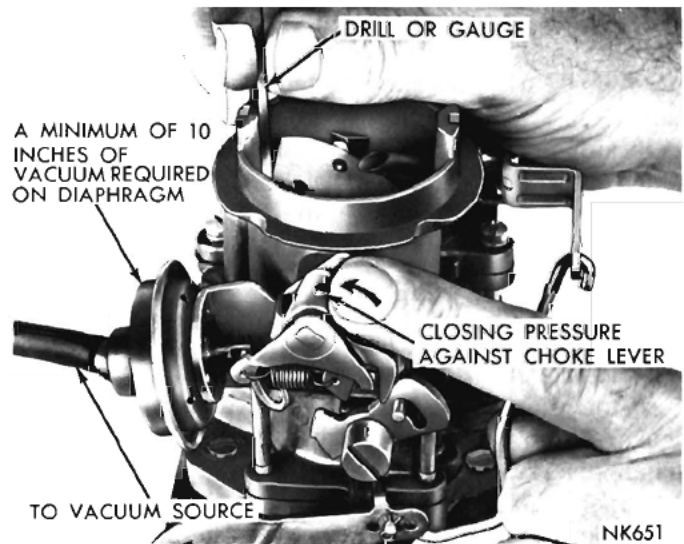

Fig. 15—Vacuum Kick Adjustment
(1) With the engine **Not** running, open the throttle valves far enough to allow the choke valve to be moved to the closed position.
(2) Disconnect the vacuum hose from the diaphragm and connect the hose from the vacuum supply, as shown in (Fig. 15). (A minimum of 10 inches of mercury (HG) will be required.)
(3) Insert the specified drill or gauge between the choke valve and the wall of the air horn. Refer to (Fig. 15). Apply sufficient closing pressure on the choke shaft lever to provide the smallest choke valve opening possible without distortion of the diaphragm link. Note that the cylindrical stem of the diaphragm will extend, as an internal spring is compressed. The spring must be fully compressed for proper measurement of the kick adjustment.
(4) An adjustment will be necessary if a slight drag is not obtained as the drill or gauge is being removed.
(7) Install the choke operating link and recheck the choke valve opening, using a gauge or drill. Refer to (Fig. 15).